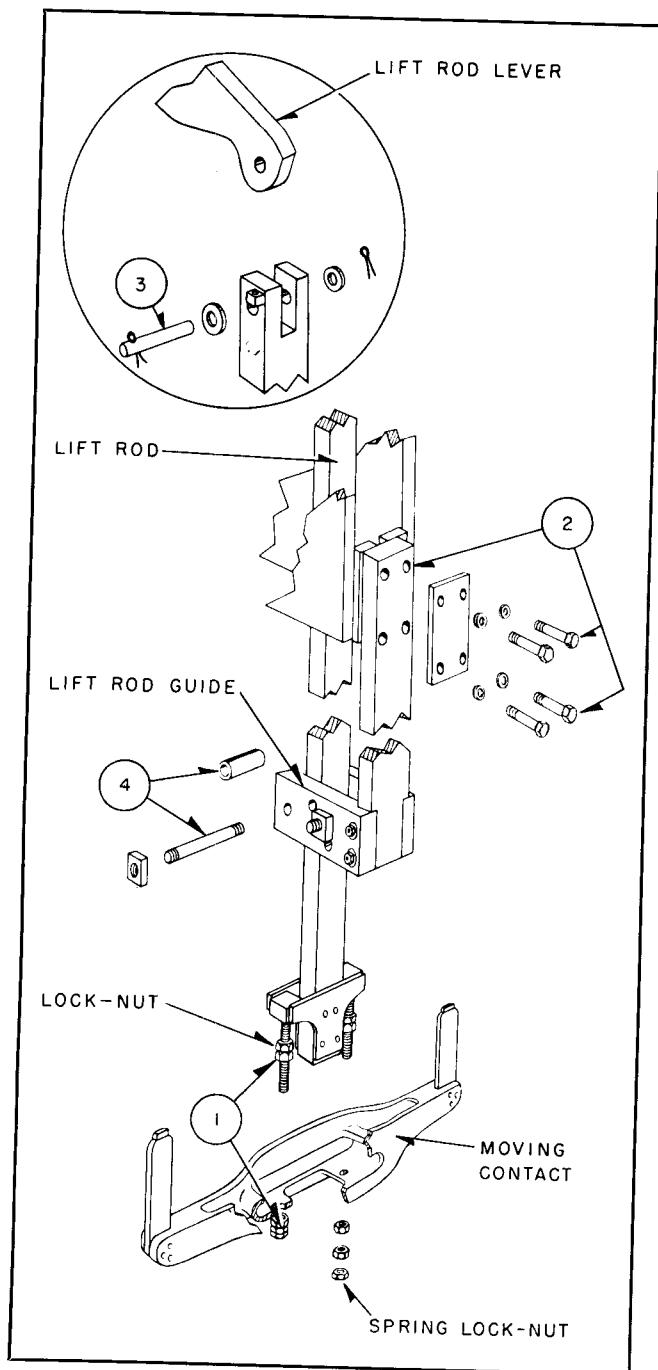

FIG. 10. Exploded View of Moving Contact Unit
Before final alignment of the stationary contacts can be made, the moving contact must be assembled on the lift rod foot according to the procedure outlined below. It is advisable to complete the assembly of the moving contacts on all three pole units at this time. See Fig. 10.
**Adjusting Vertical Alignment of the Lift Rod.** Oversize holes are drilled in the guide rod to provide for adjustment of the vertical alignment of the lift rod. To adjust, loosen the four bolts shown in Fig. 10 and shift lower end of guide slightly to the left or right as desired. A series of holes in the lower horizontal guide pieces accommodates a variation in thickness of the lift rod, and permits forward or backward adjustment of the lift rod. Tighten bolts securely when required position is attained.
**Disconnecting the Lift Rod.** The lift rod may be disengaged from its operating lever by removing cotter pin, washer, and main pin assembly as indicated in Fig. 10.
**Swinging the Lift Rod Out of Position.** The lift rod can be conveniently swung out of its vertical position by removing the guide pin and space collar as shown in Fig. 10. This allows clearance for rotation of the fully assembled stationary contact units.
1. Slight shifting of stationary contact assembly on contact foot (3). Oversize holes in contact foot permit this adjustment.
2. Slightly tip the moving contact cross-bar to enter the stacks simultaneously. (See Fig. 10.) This should be done very carefully in order to prevent binding of contact blades after they enter the slots.
1. With the breaker in the open position, disconnect entire lift rod assembly (moving contact) on pole units No. 2 and 3. This may be accomplished by removing the pin which connects the lift rod with main lever of the pole unit mechanism. (See Fig. 10.)